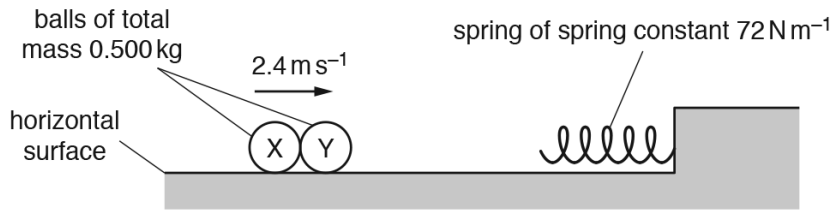

Fig. 4.3
- (b) The two balls continue moving together along the horizontal frictionless surface towards a spring, as illustrated in Fig. 4.3.